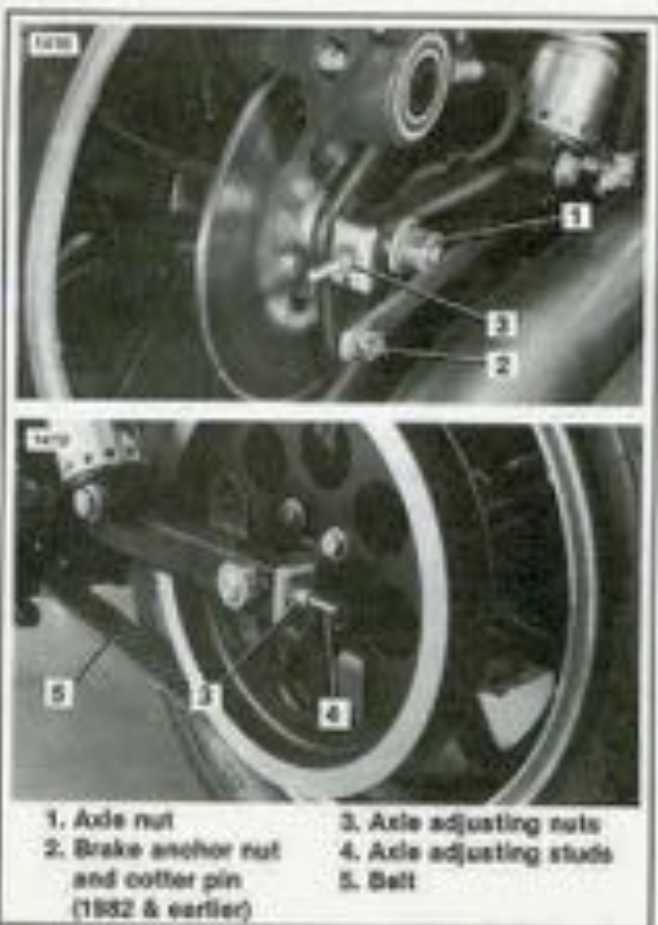

Figure 6-18. Secondary Belt Adjustment
1. See Figure 6-18. Loosen the axle nut (1). Remove the cotter pin and loosen the brake anchor nut (2). Turn adjusting nuts (3) as necessary to move axle and correctly adjust belt tension. Turn each adjuster nut (3) an equal number of turns to keep the wheel aligned. To move axle forward, loosen adjuster nuts an equal number of turns and tap lightly on ends of adjuster studs (4).
See Figure 6-18. On 1984 models a debris deflector prevents checking belt alignment at the bottom of the belt sprocket. To check belt alignment on 1984 vehicles it is necessary to remove the two bolts attaching the chain guard to the swing arm and removing the guard, to provide adequate clearance. On FLH models it will be necessary to remove the left hand saddlebag prior to